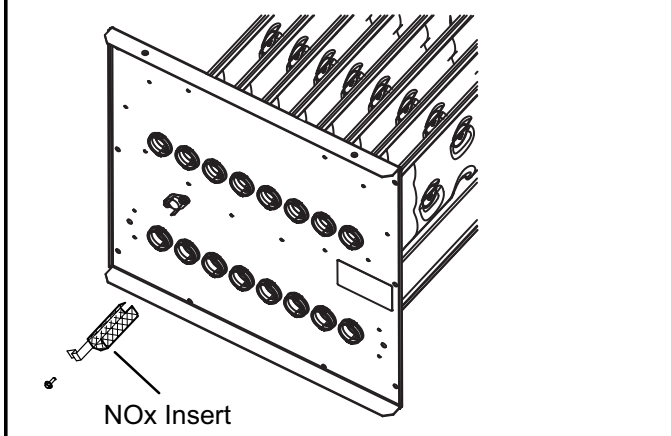

FIGURE 38
- 7 - **NOX units only** - Remove screw securing NOX insert. Remove NOX insert. See figure 38.